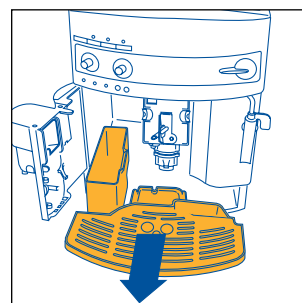

Fig. 16
NOTE 7: : the machine counts the number of cups of coffee made. Each 14 single cups (or 7 double cups), the 📊 light switches on steady (chap. 12 point 3), warning the user that the grounds container is full and must be emptied and cleaned. Until the grounds container has been cleaned, the light will remain on and the machine cannot deliver coffee. To clean the container, open the service door on the front (pulling the handle, Fig. 15), the ⚠ light flashes (see para 12 point 9); remove the drip tray (Fig. 16), empty and clean. Empty and carefully clean the grounds container, making sure to remove all the residues that may be deposited on the bottom. Also dry the any drops of condensate that may have formed inside the machine under the drip tray. **IMPORTANT: when removing the drip tray, the grounds container MUST be emptied, even if it is not completely full. If this is not done, when next making coffee the grounds container may fill over the maximum level and block the machine with lumps of coffee grounds.**
- remove the drip tray and the grounds container (Fig. 16) and clean them;